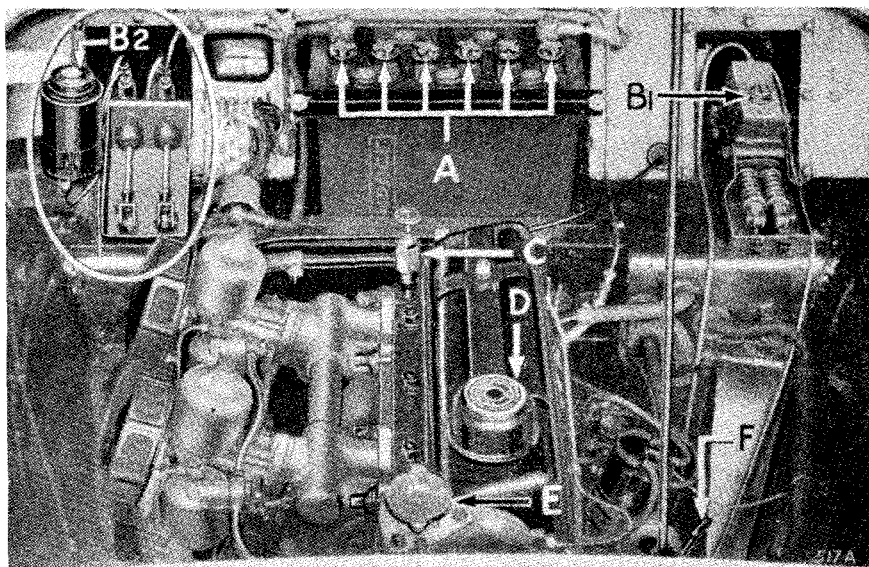

Fig. 3. View under bonnet.
Every 250 miles (400 km.) the oil level should be checked when the engine is cold, and topped up if necessary. Withdraw dipstick ((F) Fig. 3) and wipe clean, then insert and push fully home before withdrawing for reading. Should the level be at the lower mark on the dipstick, 4 pints (2.2 litres) of oil will be required for topping up. The regular addition of oil not only maintains the correct level, but also tends to keep up the quality of the lubricant. Replenishment is via the cap (D) which does NOT require unscrewing but may be lifted straight off.
For the purpose of draining, taps are provided in the bottom tank of the radiator and at the rear of the cylinder block on the right-hand side. As the cooling system is pressurised it will be necessary, when draining, to remove the radiator cap (E), Fig. 3.
It is important that the filler cap on the combined hydraulic fluid reservoir, integral with the master cylinders (see arrow B1 or B2 Fig. 3, page 11), should be removed every 6,000 miles (10,000 km.), the fluid level checked and topped up if necessary. The reservoir should be filled to within one inch (2.5 cm.) of the top, and never less than half full (see page 51 or 52 for the correct fluid).